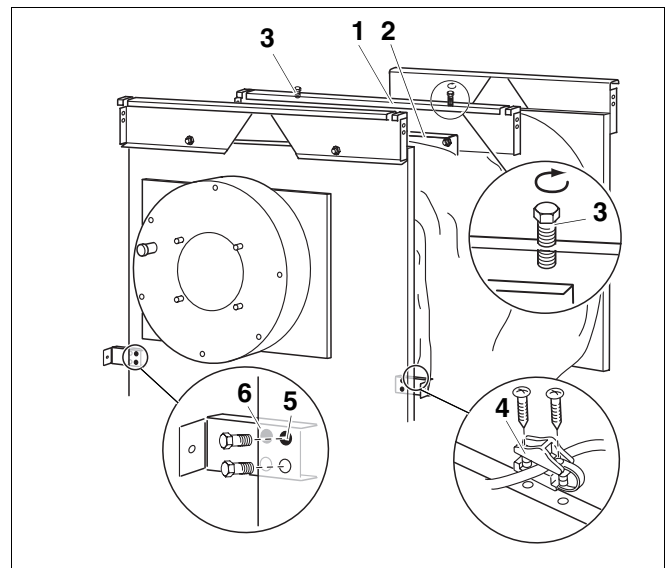

Fig. 10 Strain relief
- Lightly insert two screws M8 x 80 (Fig. 10, **Item. 3**) from the top into the central cross bracket (Fig. 10, **Item. 1**).
- Secure the central gross bracket (Fig. 10, **Item. 1**) at the top to the fixing bracket using two bolts, washers and nuts (Fig. 10, **Item. 2**).
Ensure that the edge of the central cross bracket (Fig. 10, **Item. 1**) points forward.
- Push the strain relief (Fig. 10, **Item. 4**) on the hinge side of the burner door into the cross bracket.
- Secure the strain relief with two bolts (Fig. 10).